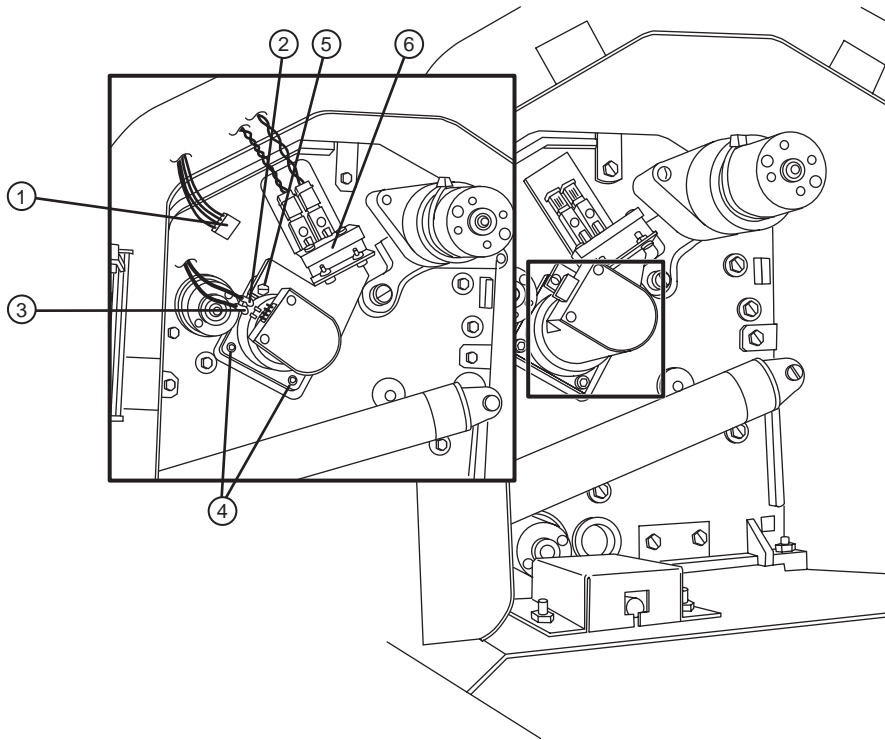

Figure 4-43 Removing the supply drive servo motor.
- ①—Two ribbon cable clamps. ②—Ribbon cables.
- ③—Lower cable clamp. ④—Bracket.
9. Remove the encoder connector from the supply drive servo motor. Refer to Figure 4-43.
- ①—Encoder connector. ②—Red connector.
③—Brown connector. ④—Two 7/64" allen screws.
⑤—Two hex screws. ⑥—Flag bracket.
10. Remove the red wire from Pin 1 and the brown wire from Pin 2 on the motor. Refer to Figure 4-43.
11. Using a 7/64" allen wrench, remove the two (2) allen screws securing the bottom of the motor to the motor bracket. Refer to Figure 4-43.
12. Using a screwdriver, remove the two (2) hex screws securing the top of the motor to the sensor flag bracket. Refer to Figure 4-43.